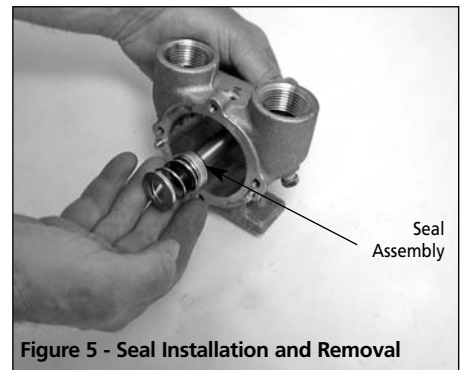

Figure 5 - Seal Installation and Removal
- g. Using a large snap ring pliers, remove the internal retaining ring (Ref. No. 1) from the drive end side of the pump body (Ref. No. 4). Using a small snap ring pliers, remove the retaining ring (Ref. No. 3) from the shaft (Ref. No. 12) at the seal end. The mechanical seal (Ref. No. 5B) will slide off the shaft (Ref. No. 12). While supporting the pump body (Ref. No. 4), pull against the shaft from the drive end until shaft and bearing assembly are removed (See Figure 5).
- carbon face first. Slide onto the shaft until the carbon seal face is compressed against the ceramic seal seat (Ref. No. 5A) (See Figure 5).